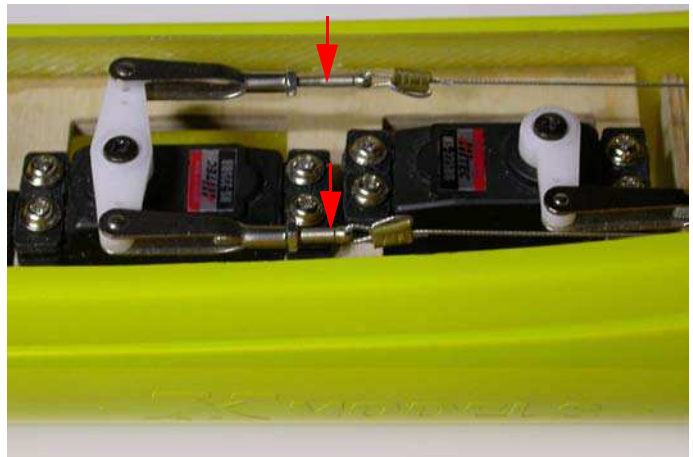

Fig.104: Align the servo horn.
- screwing or unscrewing the screws “CAPD” in the clevises (see figure 104), align the rudder to the servo horn;